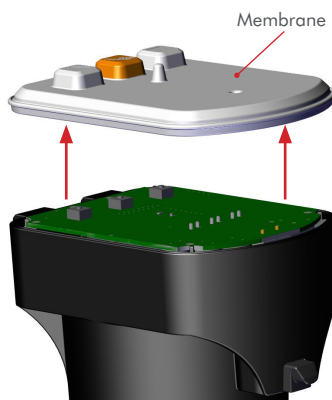

Figure 2
STEP 3: Remove the **Membrane**. **FIG 2**